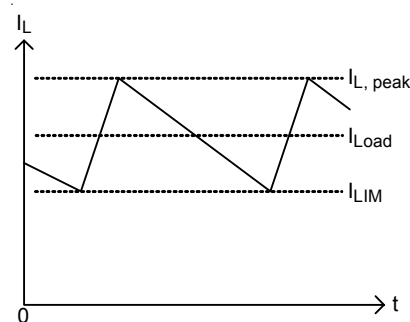

Figure 2. Valley Current-Limit
RT8209L/M has cycle-by-cycle current limiting control. The current limit circuit employs a unique “valley” current sensing algorithm. If PHASE voltage plus the current-limit threshold is below zero, the PWM is not allowed to initiate a new cycle (Figure 2). In order to provide both good accuracy and a cost effective solution, the RT8209L/M supports temperature compensated MOSFET RDS(ON) sensing. The CS pin should be connected to GND through